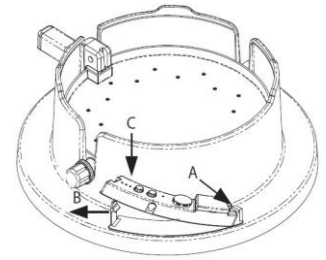

Figure 4
2. Insert the control box into the cradle on the side of the Saver body by first sliding the right end under the right-side clip (Figure 4-A). Then gently pull back the left clip (Fig. 4-B) while lowering the left side of the control box (Fig. 4-C). Make sure the control box is securely fastened by both clips before continuing.